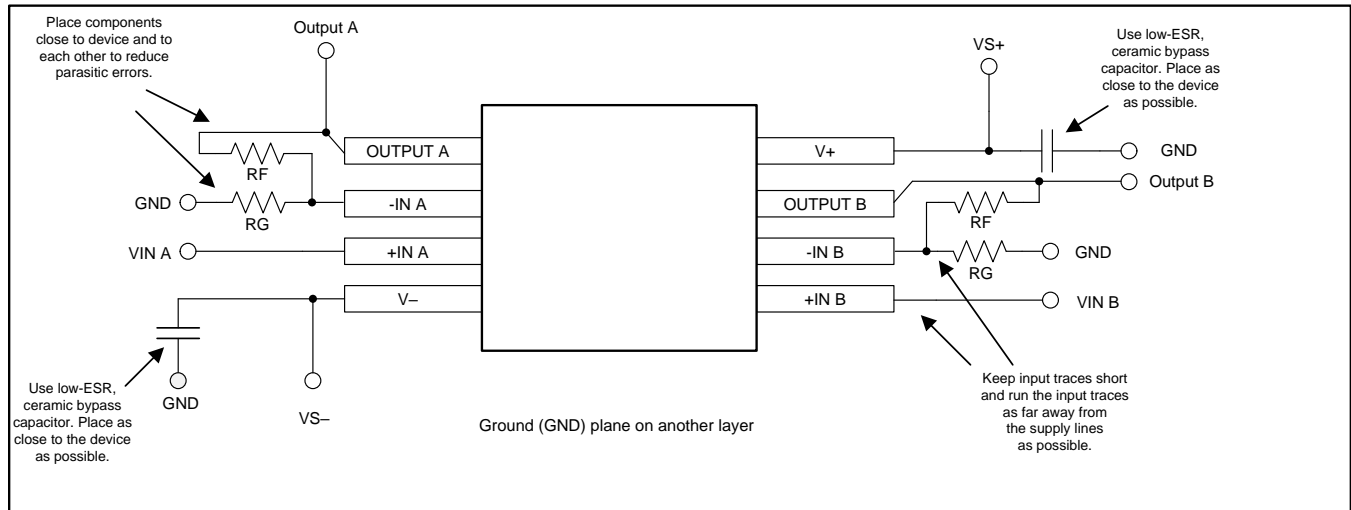

Figure 64. Operational Amplifier Board Layout for Noninverting Configuration
- Place the external components as close as possible to the device. As shown in Figure 64, keeping R_F and R_G close to the inverting input minimizes parasitic capacitance.